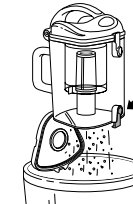

Fig. 19
- 2 Hold the dust cup over a trash receptacle and press the bottom door release button. (Fig. 19) Tap gently to empty contents. Press the door shut again until it clicks.